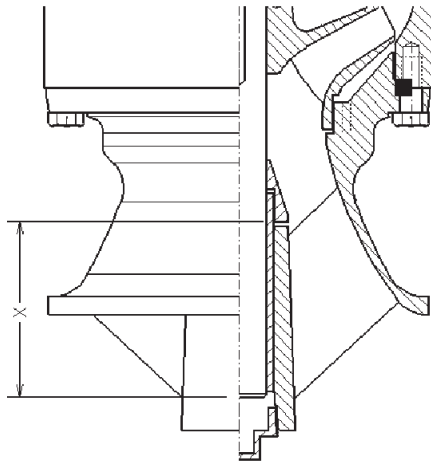

Figure 16
2. If the sand collar is not assembled to the shaft, install the sand collar. The sand collar is attached to the shaft with a shrink fit. The larger diameter of the counterbore of the sand collar goes toward the suction bell bearing. Heat the sand collar until it slips over the shaft and quickly position it so that the bottom of the sand collar is set according to the “X” dimension, before it cools. See Figure 16. See Table 1 for the “X” dimensions. Slide the plain end of the pump shaft into the suction bowl/bell bearing until the sand collar rests against the suction bowl/bell.